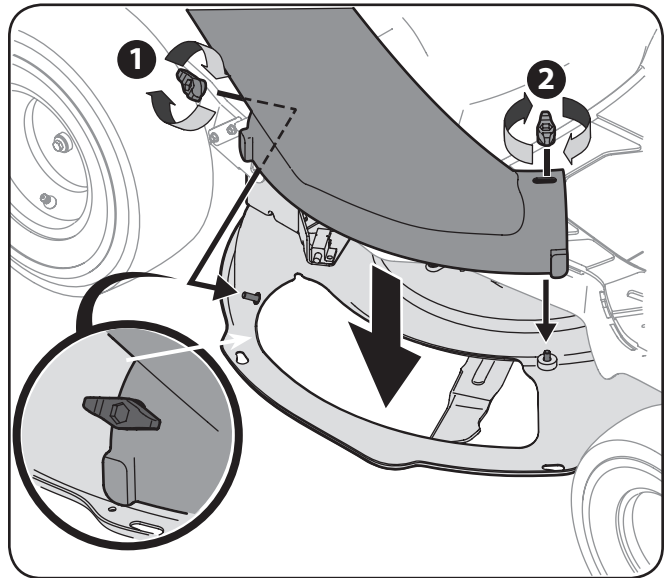

Figure 4-7
9. Mount the bagger chute tube to the deck of the tractor by lowering the chute tube over the mounting bolts in the mowing deck, as shown in Figure 4-7.
10. Secure the rear mounting bolt with a wing knob (1), then the front mounting bolt with another wing knob (2) as shown in Figure 4-7.